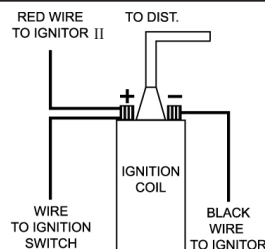

FIGURE 3
B. Alternative Installation: The Ignitor II can also be installed in applications retaining the ballast resistor or resistance wire. (**See Figure 3**)